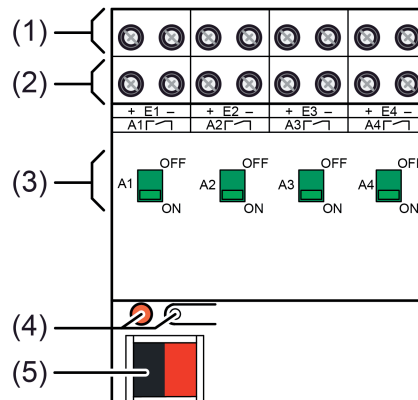

Figure 1: Device components
The switching position of the relays is indicated by slide switches (3) on the front panel of the device (Figure 1). At the same time the slide switches can be used for manual operation of the relay outputs. Use a suitable tool for actuation (e.g. thin slotted screwdriver).